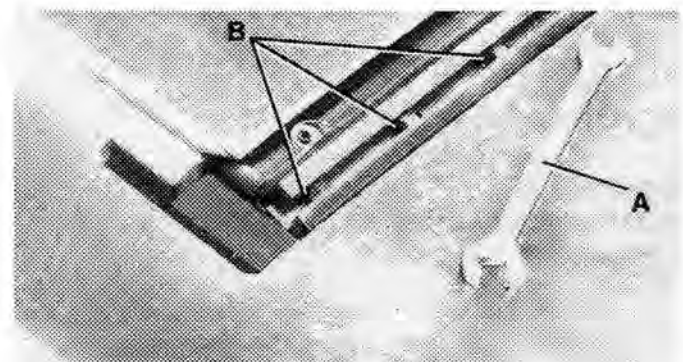
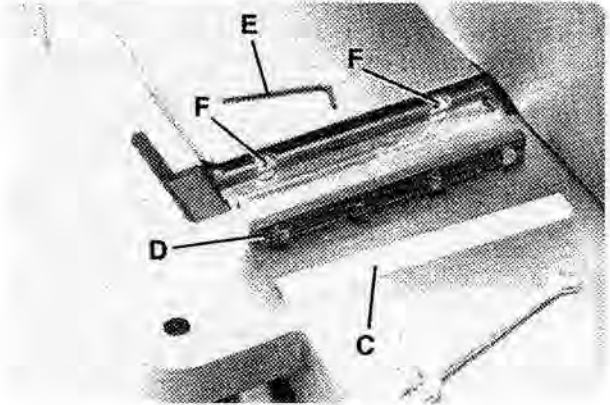
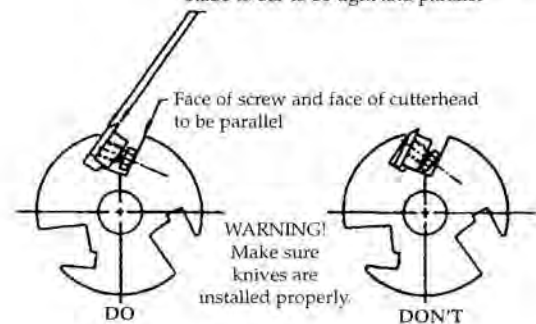

FIGURE 40
FIGURE 41
FIGURE 42
3. Using wrench (A) Fig. 40, slightly loosen the locking screws, three of which are shown at (B) Fig. 40, in each knife slot by turning the screws (B) clockwise. This relieves stress in the cutterhead.
4. Loosen screws (B) Fig. 40, further and remove knife (C) Fig. 41, and knife locking bar (D).
- Fig. 41 illustrates the knife (C) and knife locking bar (D) removed from the cutterhead. Remove the remaining two knives and locking bars, in the same manner.
- Using wrench supplied, lower the two knife adjustment blocks by turning screws (F) counterclockwise in all three slots of the cutterhead.
- Replace the knife locking bars (D) Fig. 41, and knives (C) into each slot in the cutterhead. **WARNING: CARE MUST BE TAKEN WHEN INSERTING THE KNIVES AS THE CUTTING EDGES ARE VERY SHARP.** Push the knife down as far as possible and snug up the five screws (B) Fig. 40, three of which are shown, by turning each screw counterclockwise just enough to hold the knife in position. Replace the remaining two knives in the same manner. **NOTE: KNIVES MUST BE INSTALLED CORRECTLY AS SHOWN IN FIG. 42.**